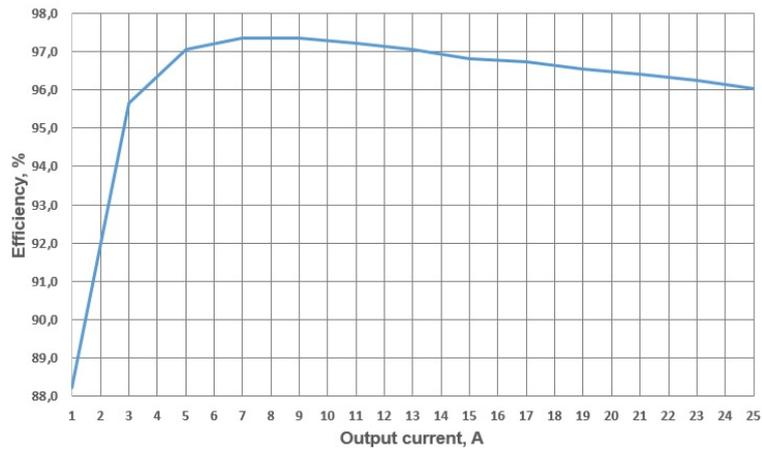

Figure 6. Efficiency vs. output current at Vin=48V, Vout=30V
- 6) Depends on input voltage, output voltage, output current. See details on figure 6.